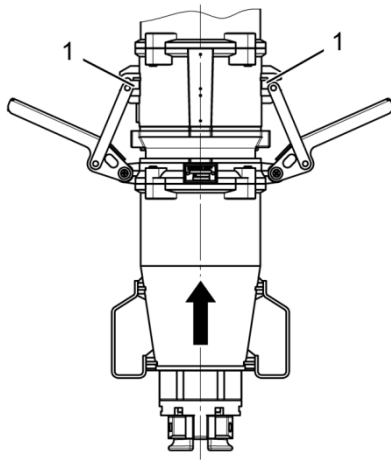

Fig. 64: Hooking in the locking levers
2. Hook the locking levers of the Male Connector into the groove of the Female Connector (Fig. 64 /1).